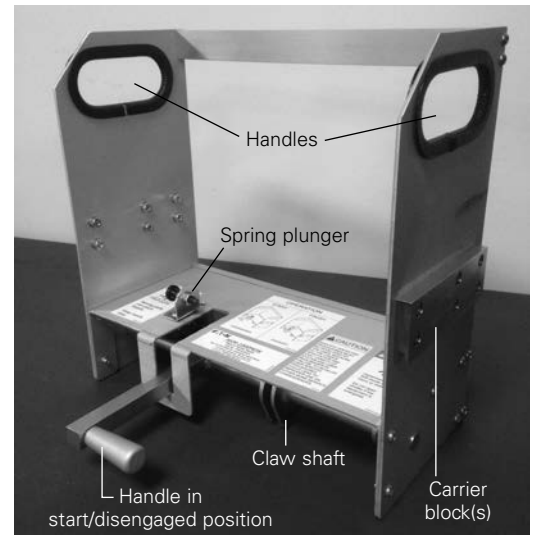
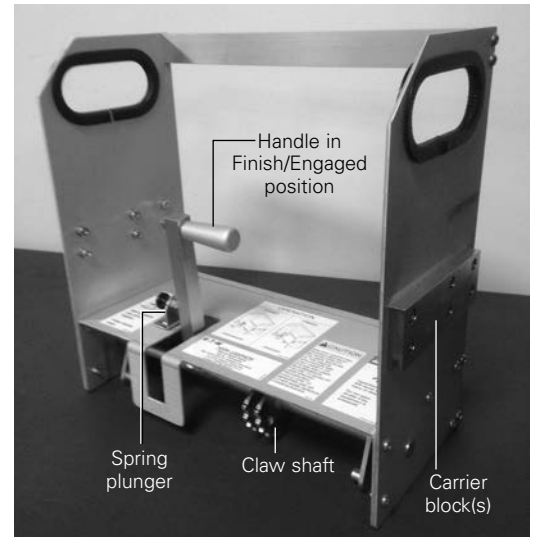

Figure 1.
Figure 2.
4. If necessary, pull spring plunger and rotate handle of MSM to the Start/Disengaged position. See **Figure 1** and **Figure 2**.